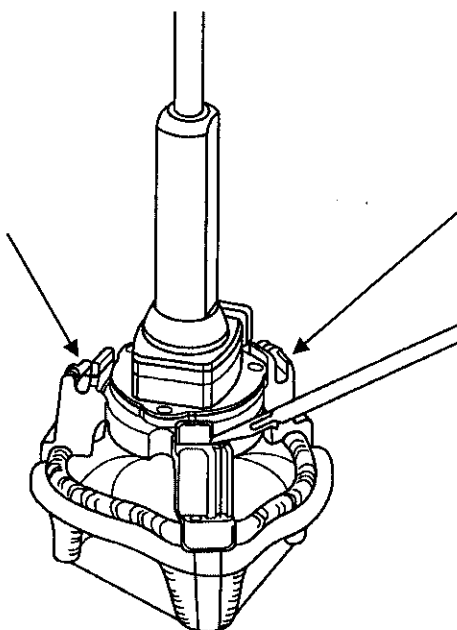

Figure 11: Cut three sutures to remove mitral holder.
3. To remove the valve holder from the valve, cut the three retaining sutures as shown in **Figure 11**, and pull the valve holder away from the valve. Examine the valve to ensure that there are no holder suture remnants.